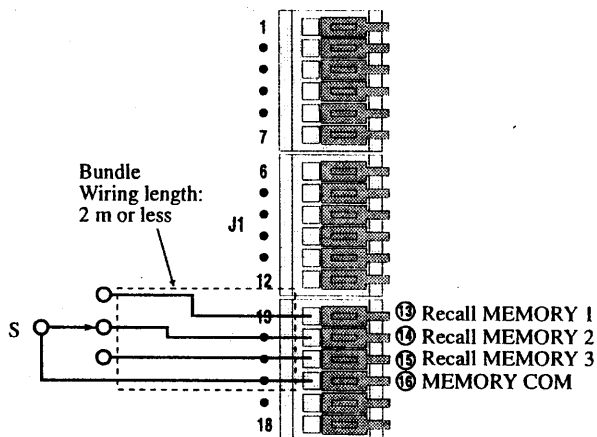

Fig. 4-11 Connecting contact S (1)
2. As shown in Fig. 4-11, connect contact S (switch) to the control terminal corresponding to the memory you wish to recall.